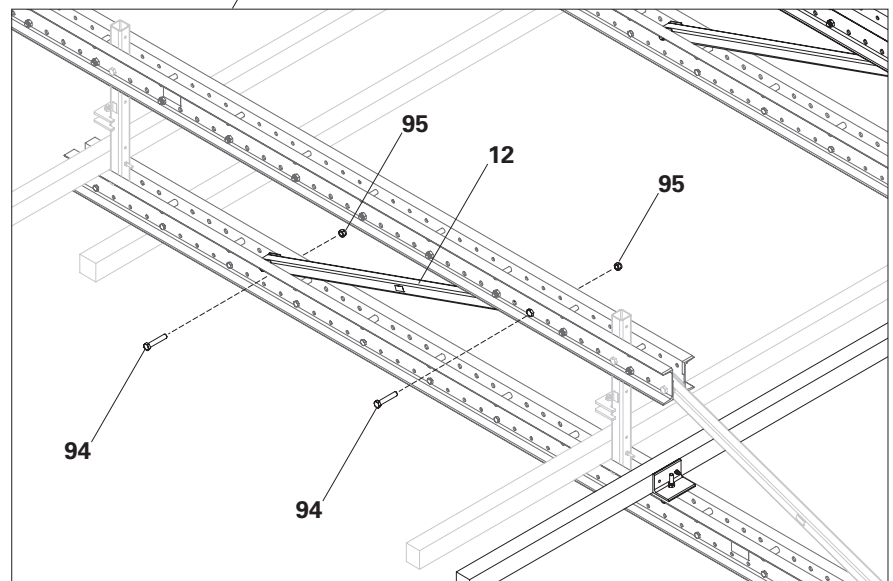

Fig. C1.09a
5. Install the middle diagonal strut (**12**) using bolts M24 x 130 (**94**) and nuts M24 (**95**). (Fig. C1.09a)